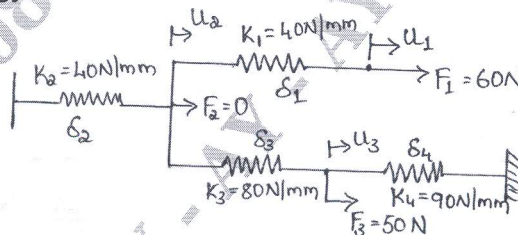

Fig. Q1 (c)
- c. For the spring shown in Fig. Q1 (c), determine the nodal displacements using principle of minimum potential energy.